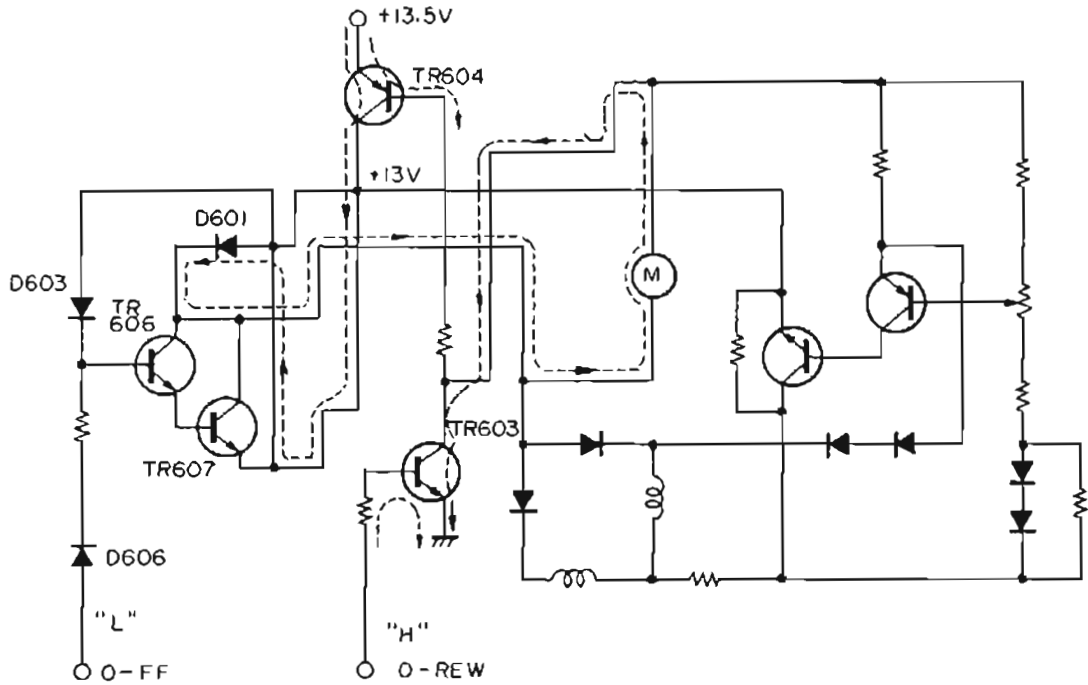

Fig. 11
at the same time, so TR604 too turns on. With TR603 and TR604 conducting, load current for drive motor (M) flows as shown in Fig. 11 so that the motor runs in reverse direction for tape rewinding